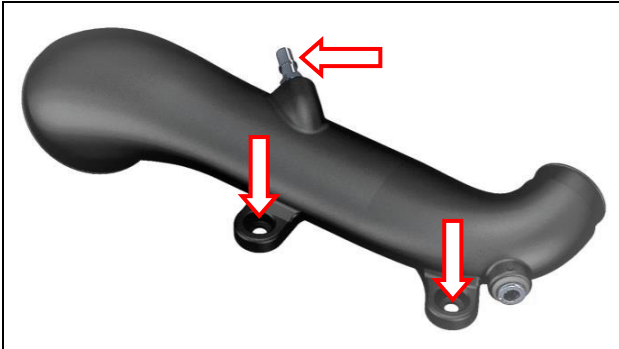

Figure 7
12. Using the supplied aluminum NPT vent fitting, secure onto the INTECH Intake Tube and tighten (**Figure 7**).
13. Remove (x2) rubber grommets from OE tube and reinstall in INTECH tube (**Figure 7**).